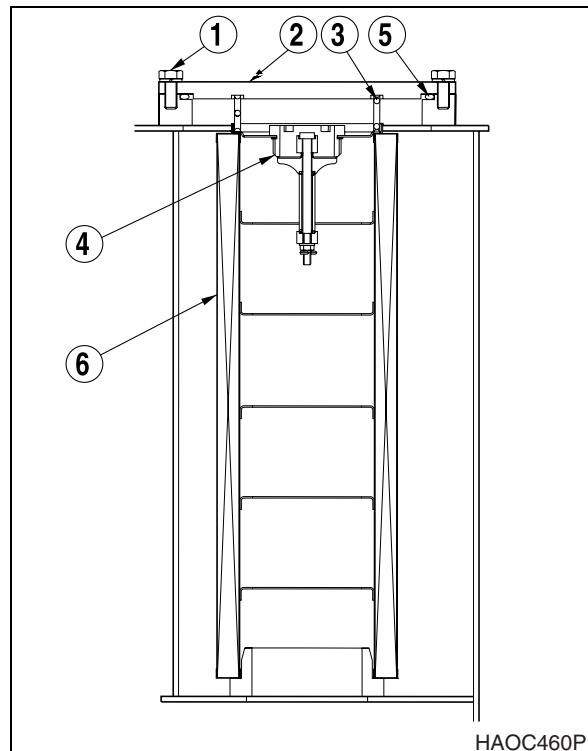

Figure 53
3. Remove bolts (1, Figure 53) and service cover (2). Remove spring (3), valve (4) and O-ring (5) from filter (6).